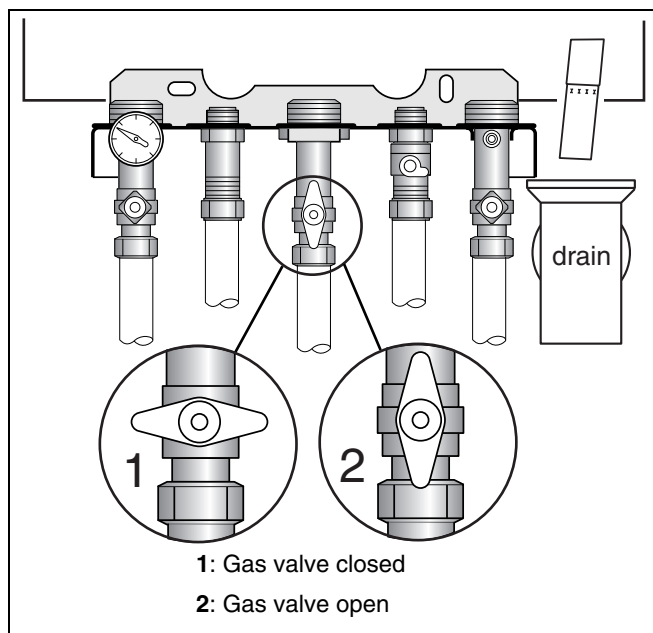

fig. 7 Gas service valve
- Close the gas service valve by turning it clockwise (fig. 7, item 1).
- Close the gas valve (fig. 7, item 1).